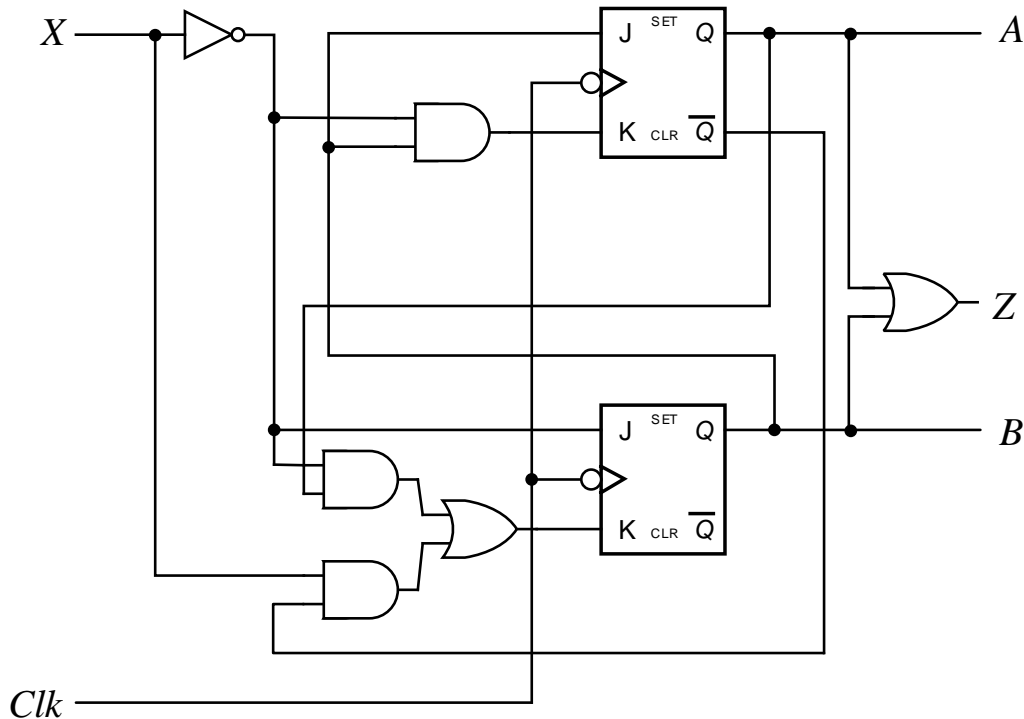

Figure 2. Logic circuit for EXE 4.
Figure 2 shows a synchronous sequential circuit that has one input X, two JK flip-flops A and B, and one output Z. Do the following.
4.5 **Training Board:** Build the sequential circuit in Figure 2 on the training board using IC type 7473 and other necessary logic gates. Verify that your circuit works correctly and show it to the lab instructor.